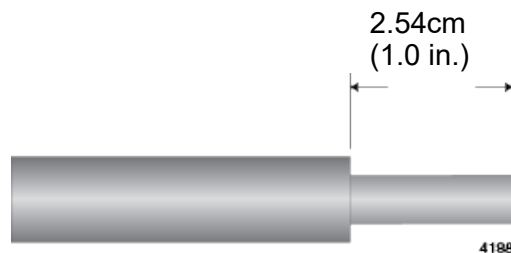

Figure 61. Stripping the Grounding Wire
1. Strip 2.54cm (1.0 in.) of insulation from the end of the solid grounding wire with a wire insulator stripper. Refer to Figure 61.